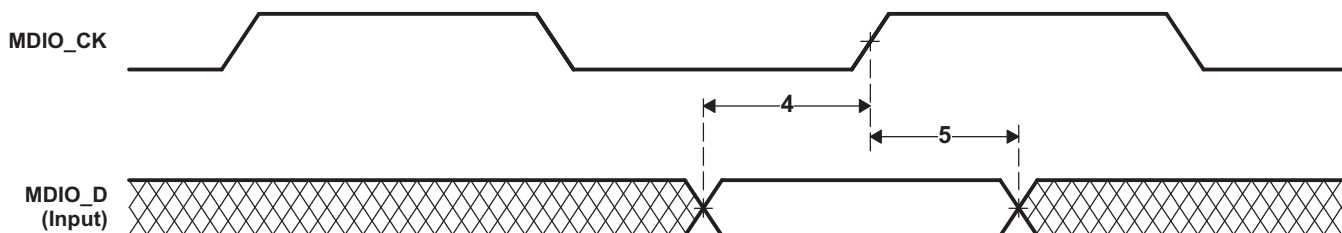

**Figure 5-42. MII Serial Management Timing – MDIO as Input**
**Table 5-65. Timing Requirements for MDIO as Input (see Figure 5-42)**